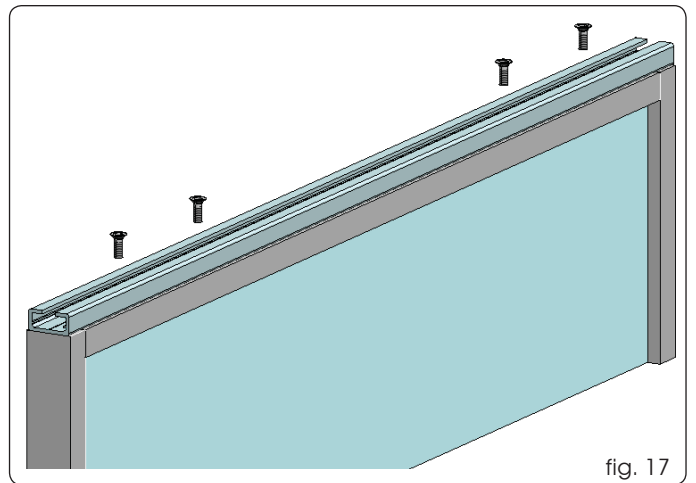

fig. 17
1. Secure to the leaf, the leaf fitting profile cut to the same length, and secure it with adequate screws on the upper part (fig. 17).